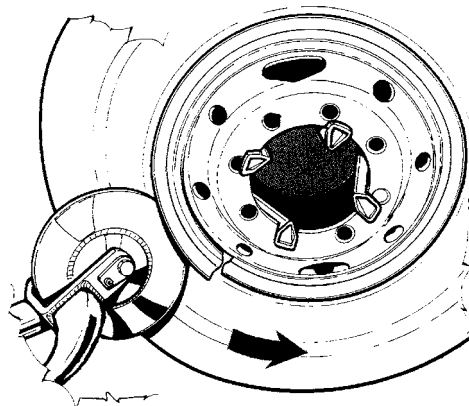

Fig.38
4. To remove the lock ring, squeeze one edge with the proper bar and place the bead loosener disc as shown in fig.38.